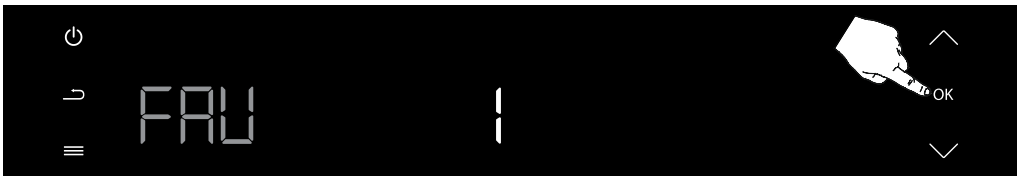

Figure 81
Press the confirmation key (OK) once to confirm the selection of the Favourites menu. (see figure 81)